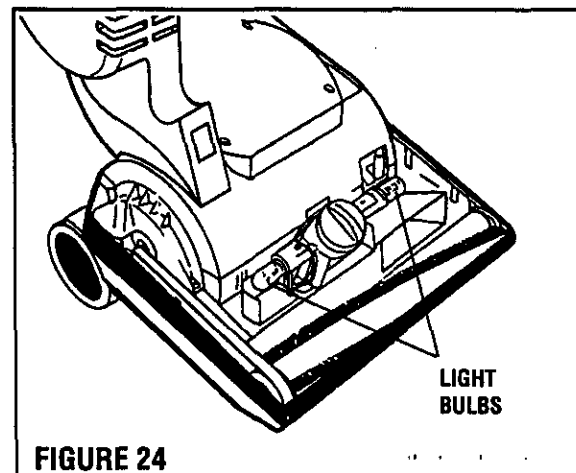

FIGURE 24
3. Remove the burned-out bulb. Press in a new bulb, and twist into place. (Figure 24) Use DESTINY® PLUS replacement bulb #63635.